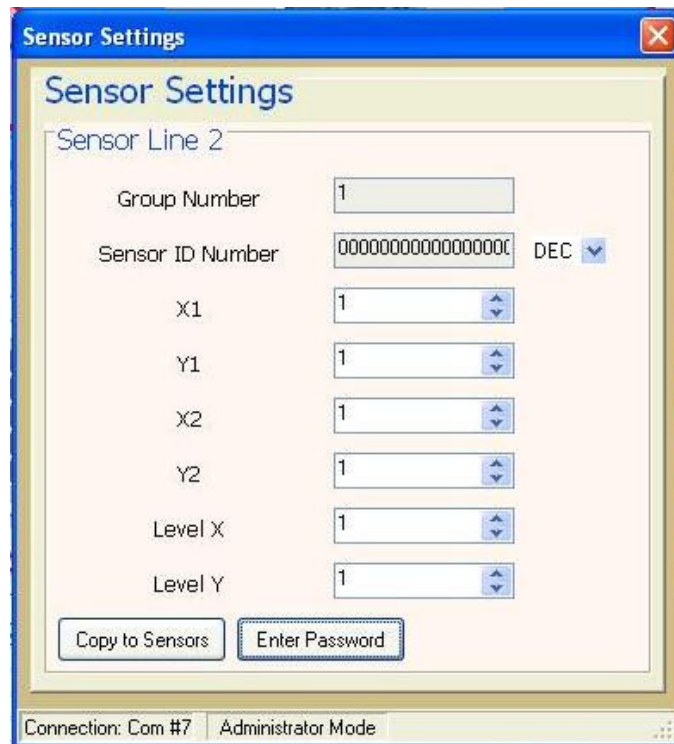

Figure 14: Sensor Settings
11.2. It is possible to open the SENSOR SETTINGS window shown in figure 14 below by Double Clicking one of sensors on the main screen.